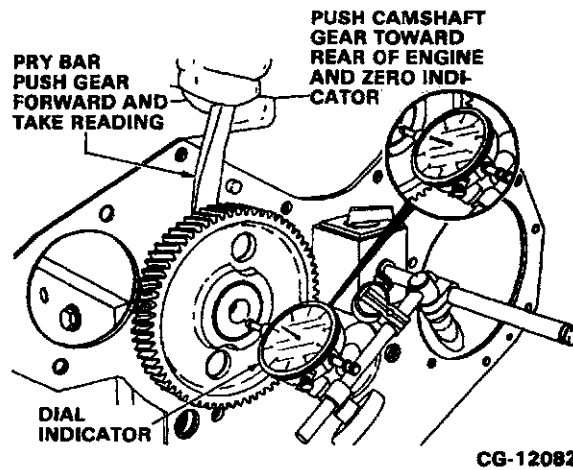

Figure 5.16. Check Camshaft End Play
- Reposition the dial indicator and check camshaft end play (Figure 5.16) as follows: